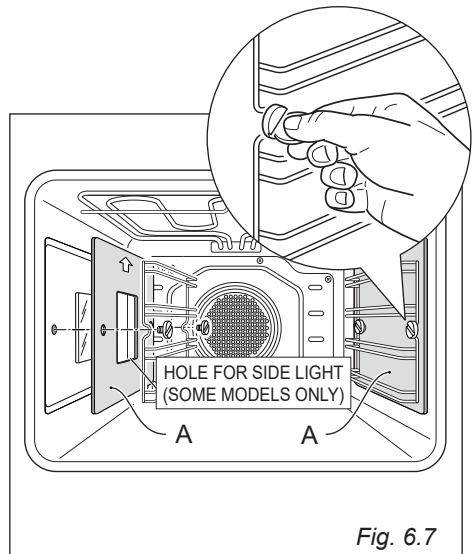

Fig. 6.7
- Assemble the wire racks to the oven walls using the 2 screws (fig. 6.7).
**In the models with catalytic panels supplied**, interpose the catalytic panels "A" with the arrow up (fig. 6.7).
- Screw the side racks onto the oven wall (interposing the catalytic panels if supplied) (fig. 6.7).